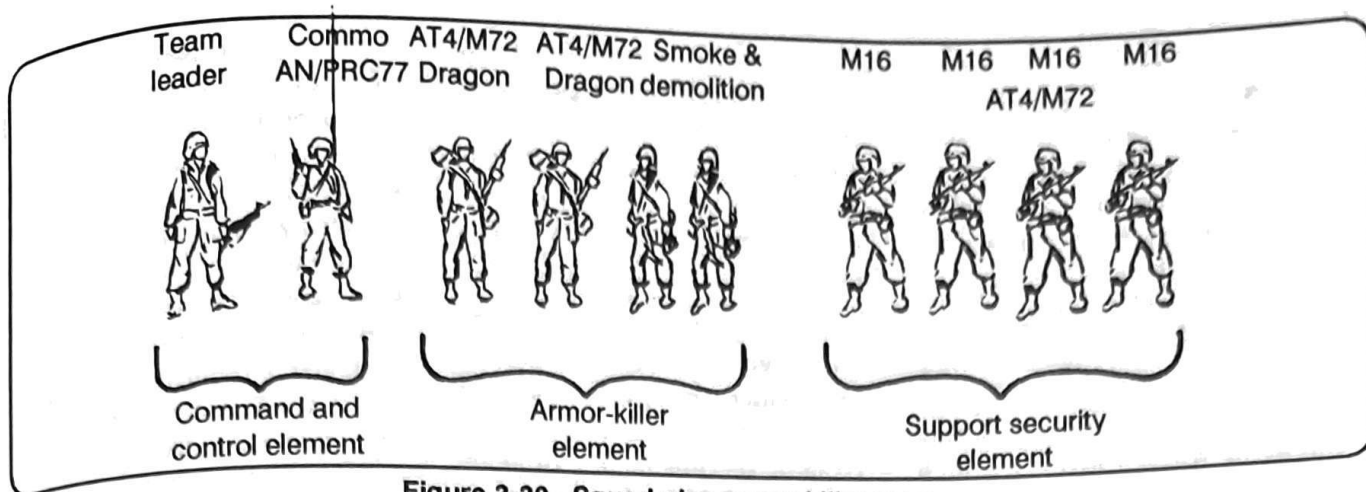

Figure 3-30. Squad-size armor-killer team.
c. Composition. Armor-killer teams may be fire-team size or squad-size. (See Figure 3-30.)